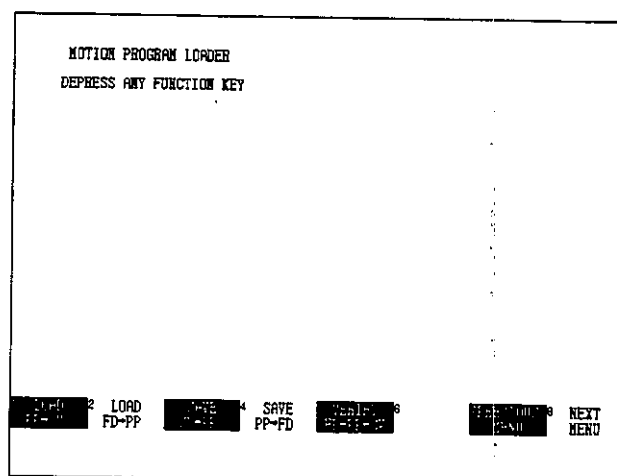

Figure 6.332
- 1) Display the Motion Program Loader Screen shown in *Figure 6.332*.
- 4) Input the module number (from 1 to 4), and press the Enter Key. (See Note (1))
1) Display the Motion Program Loader Screen shown in *Figure 6.332*.